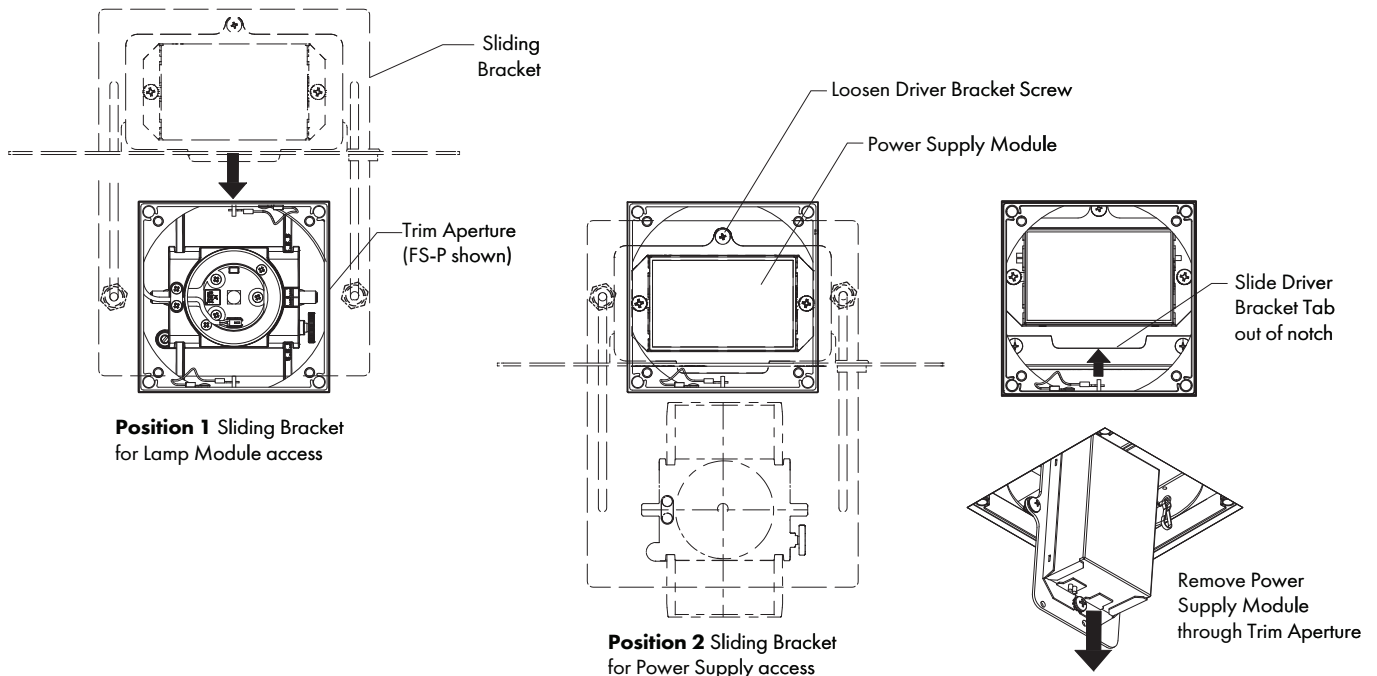

FIG 9.2 Sliding Bracket Positioning and Remove/Replace Power Supply Module
STEP 3 Move Sliding Bracket along slots to expose Power Supply Module in the aperture (Position 2) – **FIG 9.2**.
STEP 4 Loosen Driver Bracket Screw, remove Power Supply Module through aperture, and disconnect all wire connections – **FIG 9.2**.